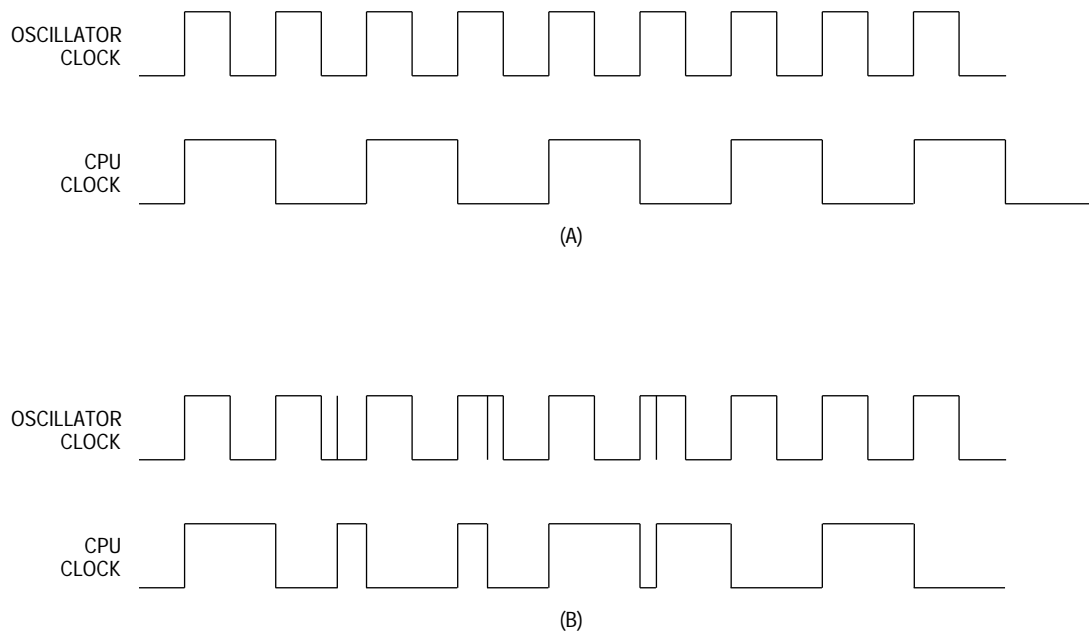

Figure 5. Effects of Spikes on an Oscillator Circuit
If any noise is induced on the oscillator circuit, then CPU failure can occur. The reason for this is diagrammatically shown in Figure 5. Figure 5 (A) shows the expected oscillator clock where the divider ensures 50% duty cycle for the CPU, from any outside jitter. Figure 5 (B) shows the effects of having some noise spikes applied to the oscillator circuit, which results in the CPU clock not being 50% duty. This means that the CPU may not correctly set up the address for the program counter or not fetch the correct data. As a result, the CPU runs away. If the noise spike is a once-only event, then this may be recovered normally with a watchdog circuit that performs a reset (see **WATCHDOG CIRCUITS**).